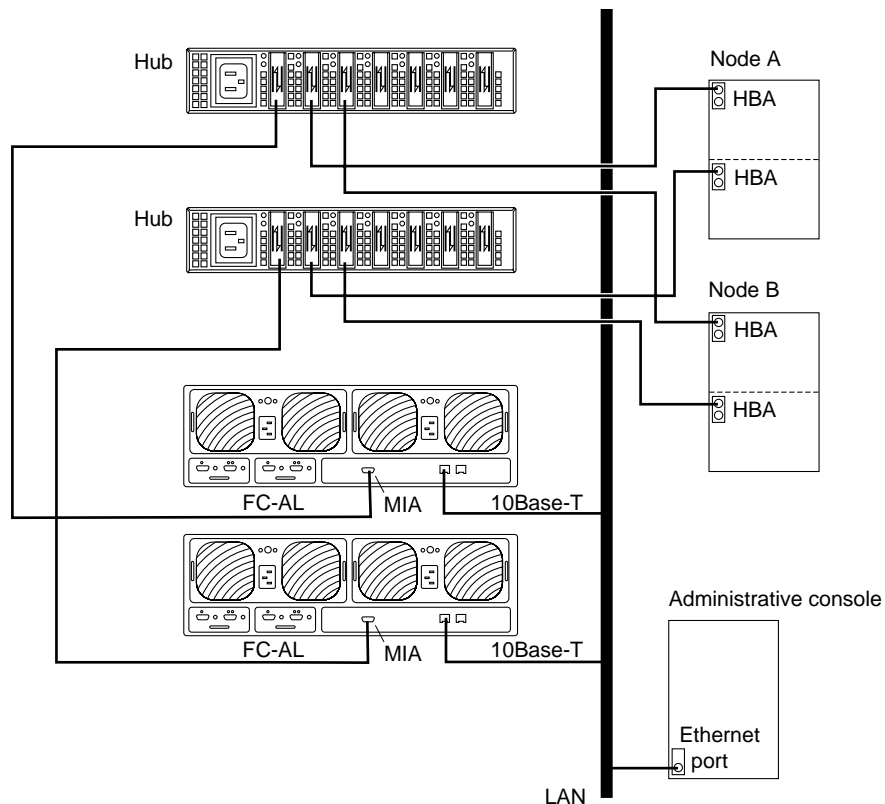

FIGURE 8-4 Adding a StorEdge T3 Disk Tray in a Single-Controller Configuration
36. If necessary, install gigabit interface converters (GBIC) as shown in FIGURE 8-4.
37. If necessary, connect a fiber-optic cable between the Sun StorEdge FC-100 hub and Node B as shown in FIGURE 8-4.